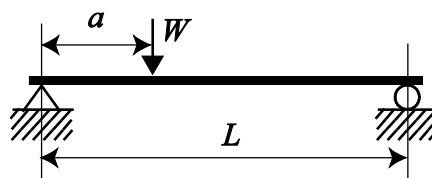

Figure 2
2. The simply-supported beam of length L that is shown in Figure 2 carries a transverse force W at distance a from one support. By considering the equilibrium of a suitably cut piece of the beam, obtain an expression for the bending moment in the beam *at the point of application of the force* in terms of W , L and a . Make a plot of this bending moment, for given W , L , as a varies in the range $0 < a < L$. Which load-position gives the largest bending moment in the beam?